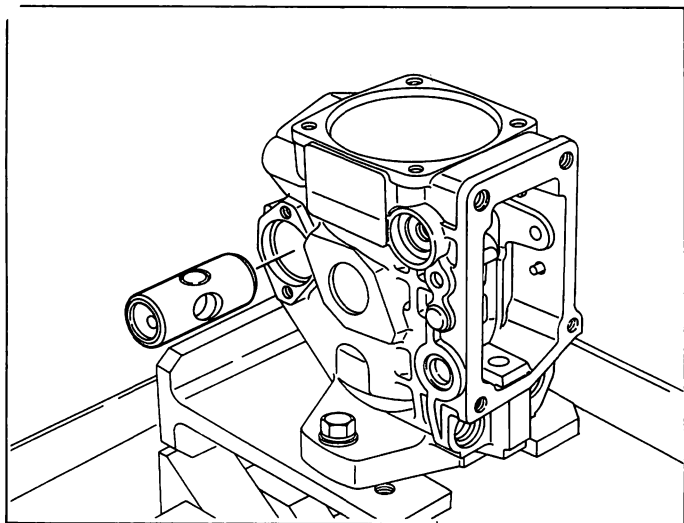

Fig. 50 Installing the timer piston
2. Install the timer piston (31) in the pump housing so that the low-pressure side (timer spring side) is on the right-hand side (viewed from the drive side) for clockwise injection pump rotation (R), or the left-hand side for counterclockwise injection pump rotation (L). (Fig. 50)